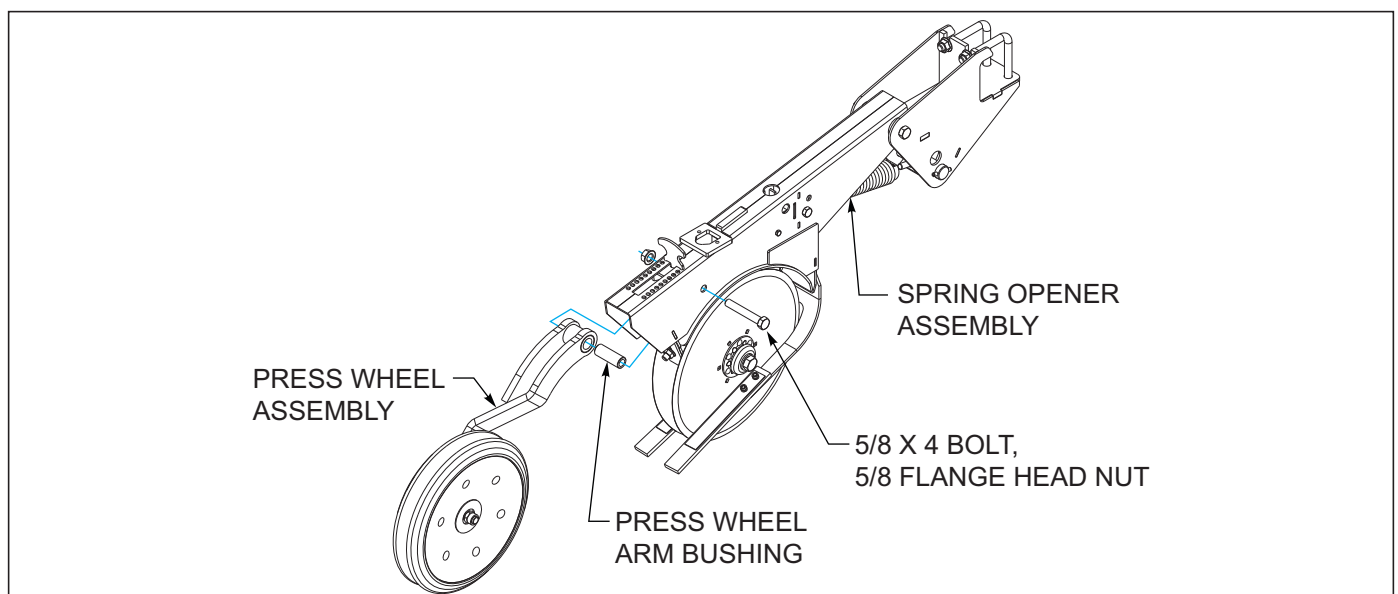

Figure 3-3: Spring Opener Press Wheel Assembly
2. Attach each press wheel assembly to each spring opener assembly on the Grain Drill using press wheel with press wheel arm bushing, 5/8 x 4 bolt and 5/8 flange head nut **See Figure 3-3.**